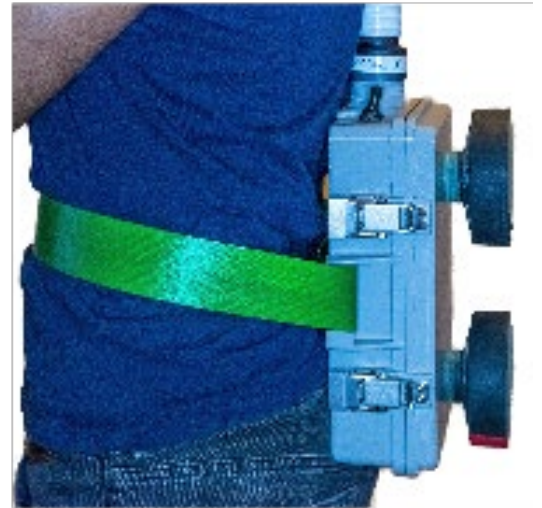

Figure 11: PAPR Blower Unit Donning
11. To don the PAPR, first set the blower unit on a waist-high table, with filters facing down. Then, carefully lift the blower unit using the belt straps towards lower back. Close the buckle of the belt and adjust the tightness as required. Tuck in the excess strap length into the tightened strap. **Figure 11** shows the PAPR donning.